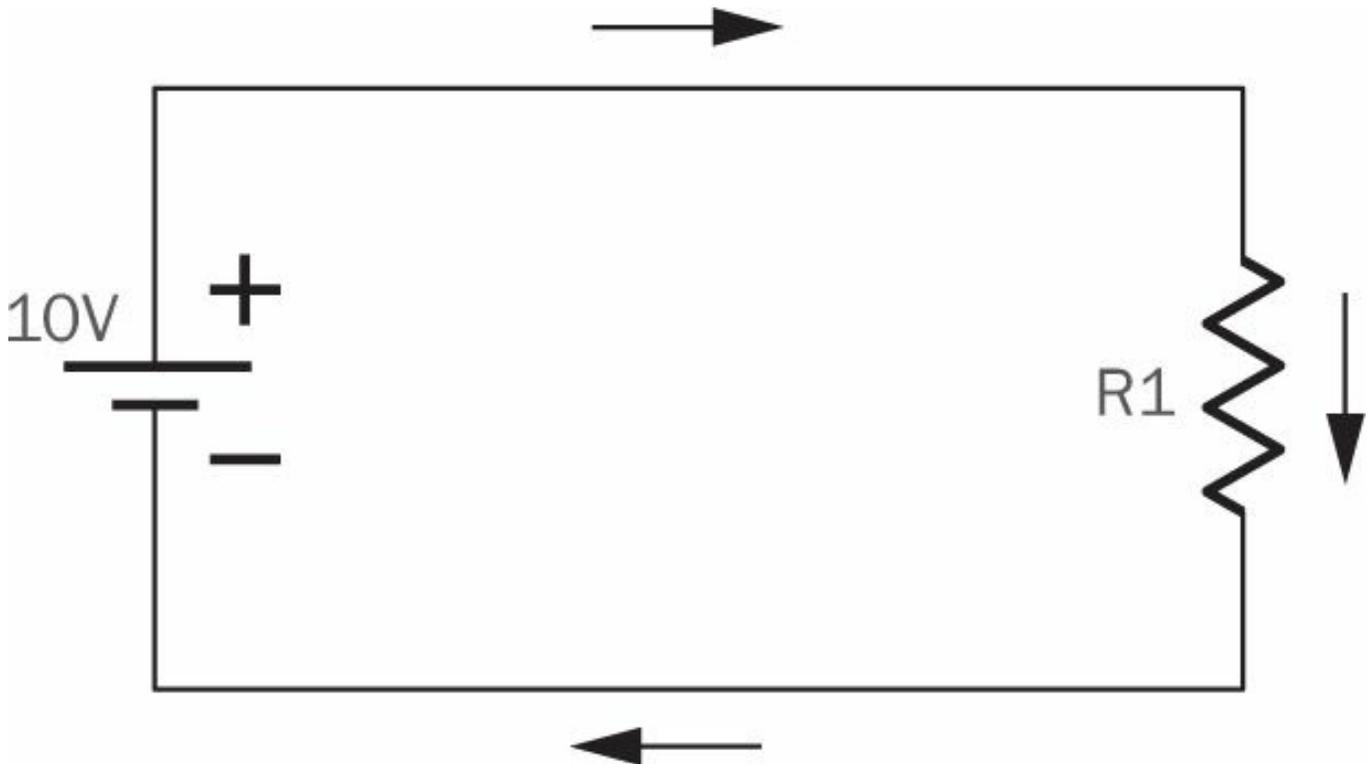

Figure 1
In figure 1, the voltage source establishes a current (I) through the battery, conductors, and resistor. By convention, the current flow is shown to flow from the positive side of the source to the negative, as shown. The magnitude of the current is determined by the potential of the battery and the value of the resistor. The celebrated Ohm's Law represents this relationship:
When the battery was manufactured, it contained stored energy in the form of a potential chemical reaction. When the battery is connected to a circuit, the current that flows from the battery does work that gradually expends this energy. In the case of figure 1, the resistor produces heat (in watts) as energy is slowly transferred from the battery to the resistor. The following equation calculates the power dissipated in the resistor:
To construct the circuit in figure 1, a resistor would have to be chosen so that it could safely dissipate 1.0 watt without overheating. To produce a suitable resistor, a manufacturer would typically provide a small cylinder with wire leads containing an electrically resistive material. The surface area of the resistor would have to be large enough so that the resistor will transfer enough heat to the surrounding air by radiation and conduction so it does not overheat. If a resistor were used in a circuit that was rated at 1.0 watt, the temperature of the resistor would stabilize at about 120°F (50 °C) above
The circuit in figure 1 (see page 90) is the basic complete circuit. Figure 2 illustrates how additional elements can be combined.